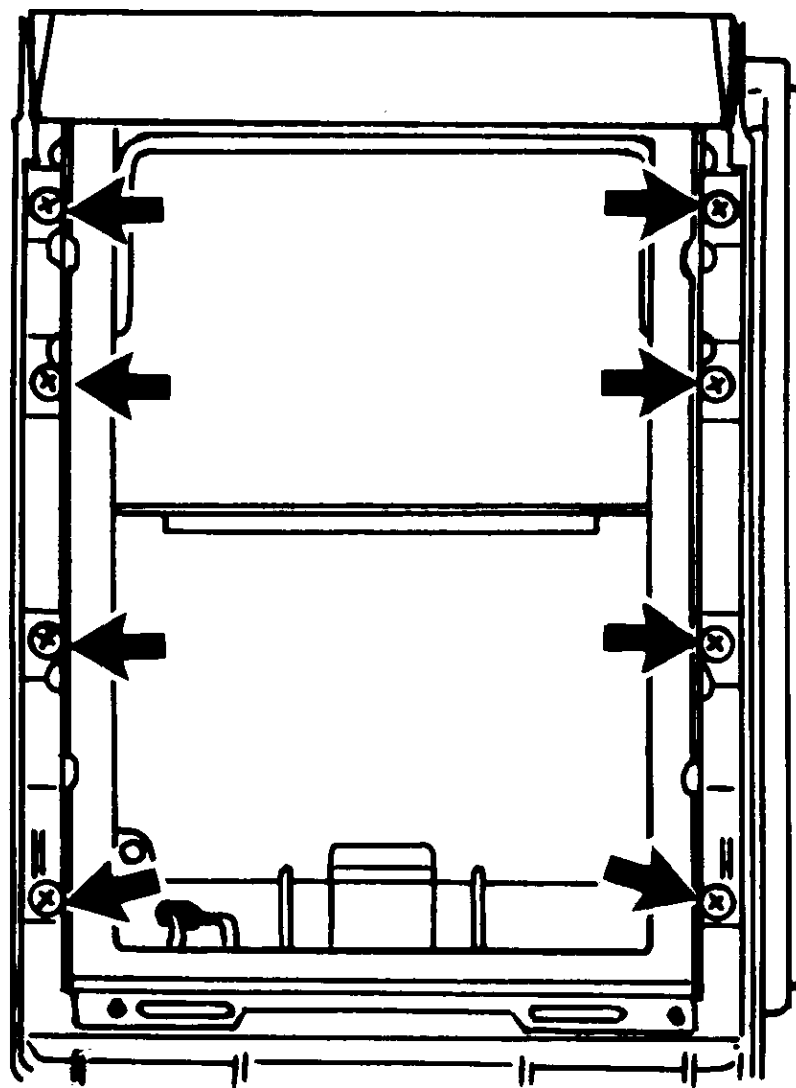

Figure 4-21 Removing Base Slide Spacer Assembly Screws
- 10.1 Remove eight screws located inside assembly. This also gives access to the Pull Film Switch. (Fig. 4-21)